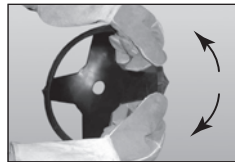
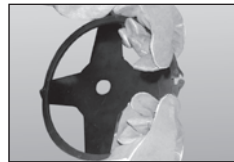

Fig. 5A
Fig. 5B
2. Refer figure 5A and Figure 5B, hold the blades cover, and pull slightly the cover outward the cover can be taken apart.